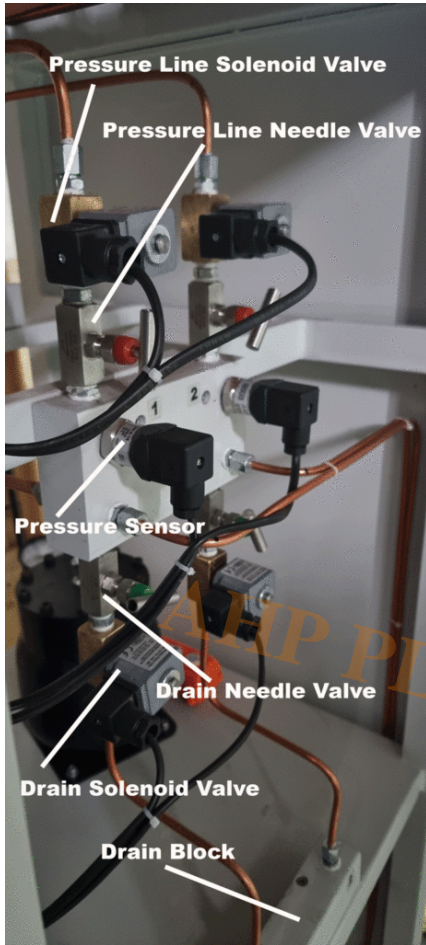

Fig2- Solenoid valves block
- 10- Check if pressure lines needle valves are open (Fig2)
- 11- Check if when you run specific line, pressure line solenoid valves need to be electrized. Take a metal piece next to valve solenoid and it will be attracted like a magnet (Fig2)